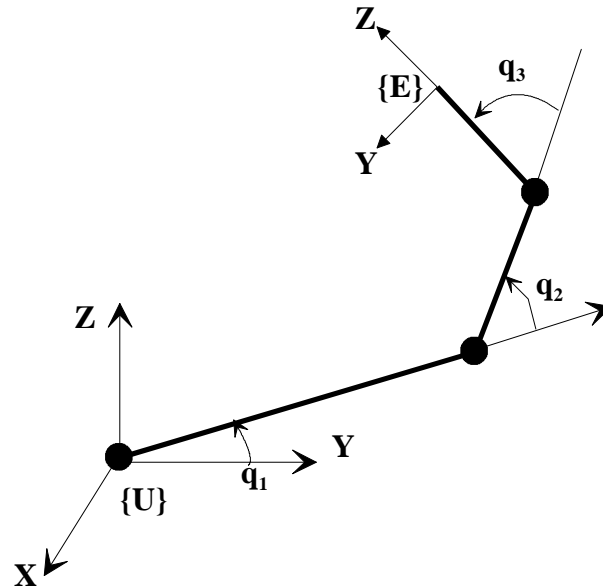

Figure 3
- Q.2. (b) Figure 3 shows a planar manipulator with three rotational joints whose joint axes of motion are parallel to the z axis of Frame U.